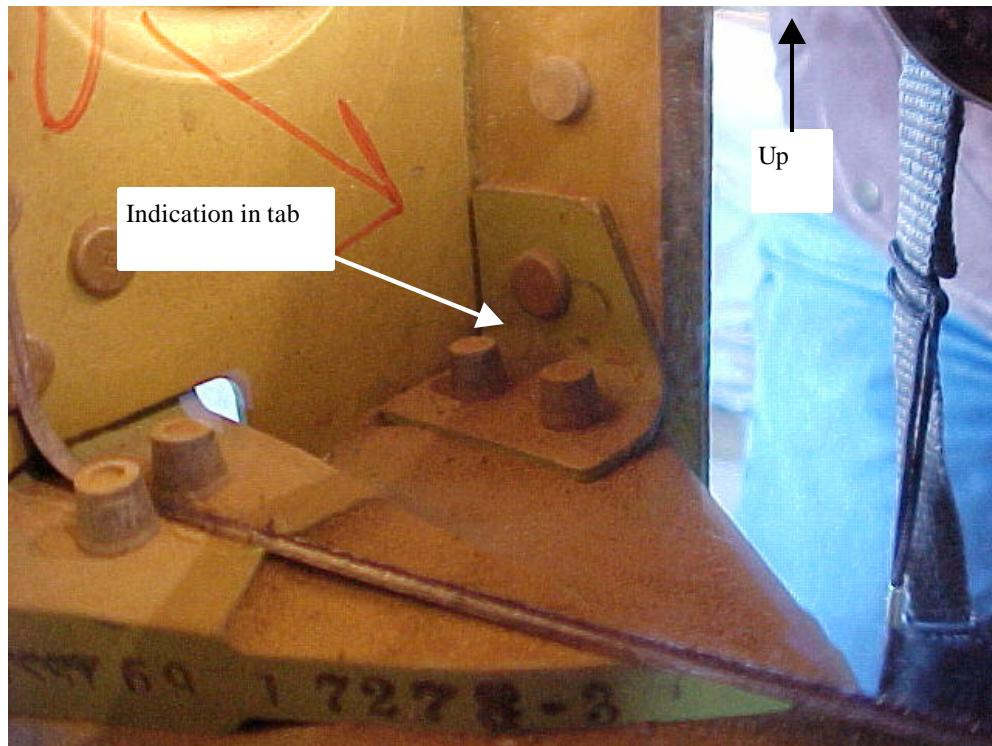

Figure F-4. Photograph documenting an indication at stinger tab near stringer 16R and FS 848.95 (aft side of aft door).
- FIGURE F-4 Photograph documenting an indication at stinger tab near stringer 16R and FS 848.95 (aft side of aft door). .....F-5